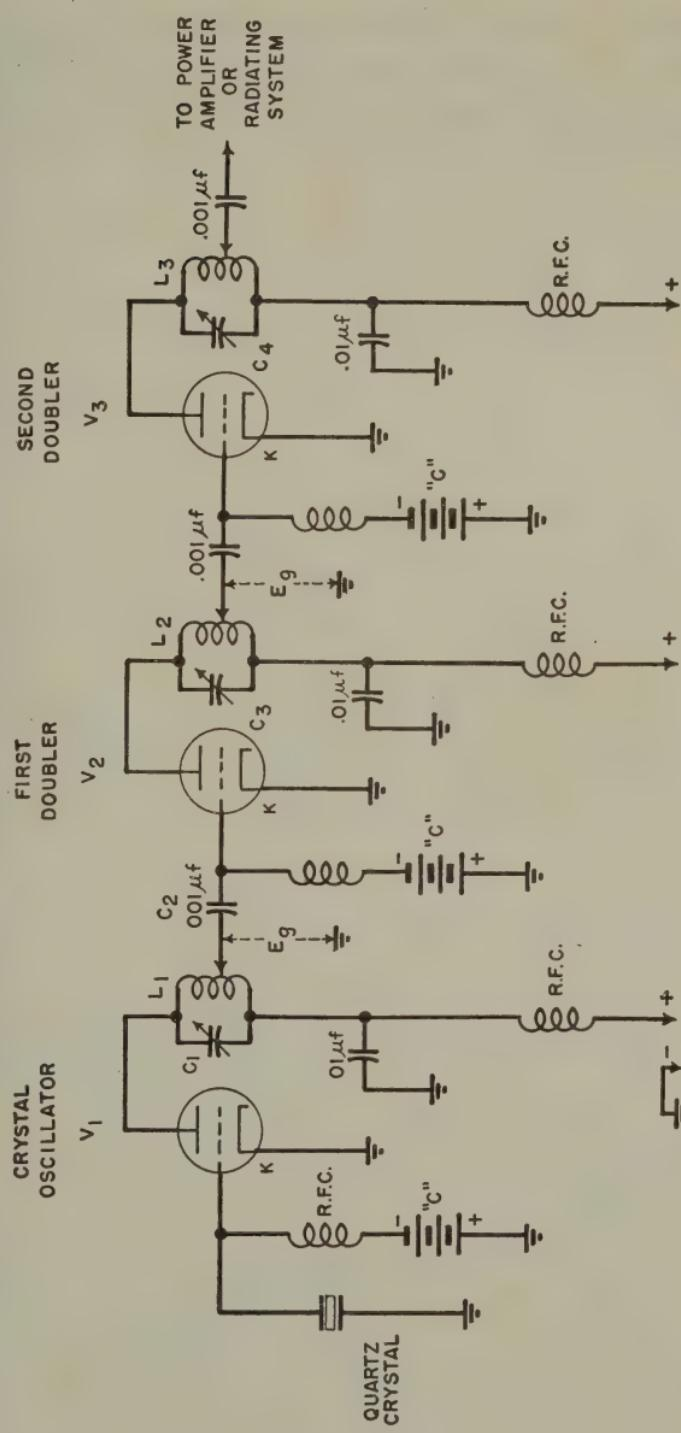

FIG. 2-26.—Radio-frequency doubling system.
**Ans.** See Fig. 2-26. (Draw first doubler stage only to answer this question.) Doubler is biased to class C operation and plate tank tuned to double the input frequency to the grid circuit.